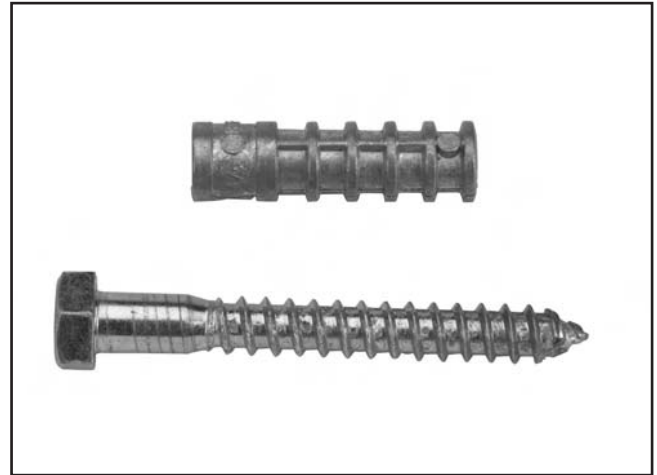
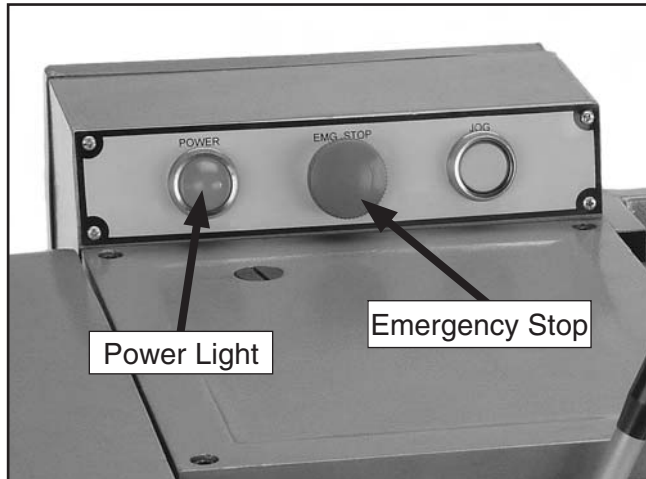

Figure 8. Typical lag shield anchor and lag bolt.
Figure 15. Power light and emergency stop locations.
Lag shield anchors with lag bolts (**Figure 8**) and anchor studs (**Figure 15**) are two popular methods for anchoring an object to a concrete floor. We suggest you research the many options and methods for mounting your machine and choose the best that fits your specific application.
Note: Once plugged in, the lathe always has power. The green "Power" light shown in **Figure 15** will be lit to indicate a live connection unless the EMERGENCY STOP button is pushed in. To cut power to the machine entirely, you will need to unplug or disconnect the lathe from the power source.
3. Rotate the EMERGENCY STOP button (**Figure 15**) in the direction of the arrows on the button and allow it to pop out.